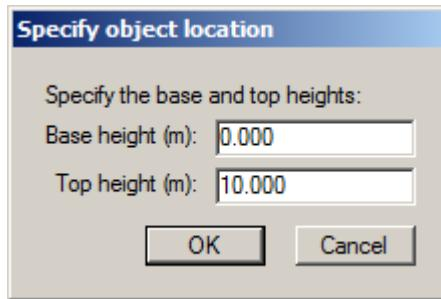

Figure 4.2: Creating a new component in the Object Editor
5. Enter the *Height*, as seen in Figure 4.2.